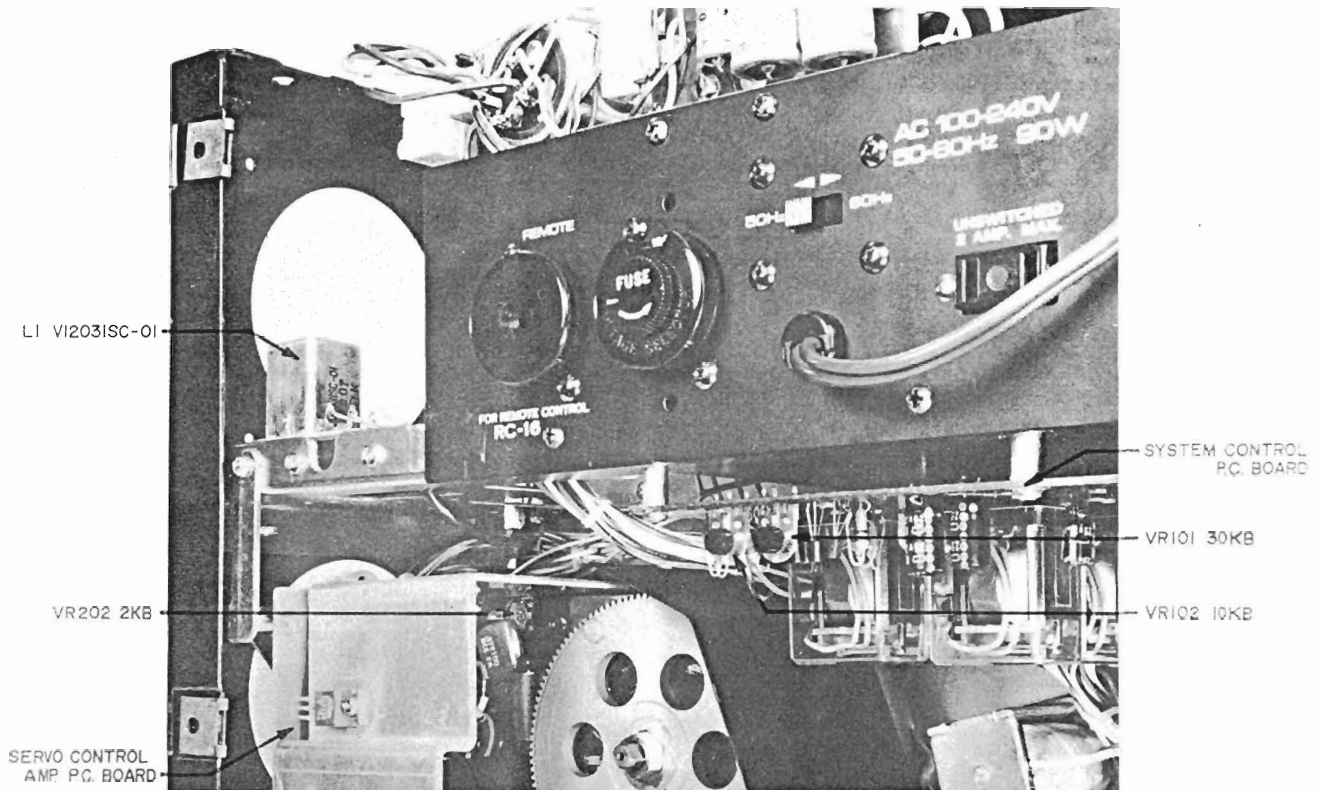

Fig. 9
- 3) Adjust the core of coil L1 (VI023SC-01) shown in Fig. 9 so that the Frequency Counter indication is 500 Hz $\pm 1\%$.
- 4) After the 3-3/4 ips (9.5 cm/sec.) tape speed adjustment has been completed, depress the 7-1/2 ips (19 cm/sec.) Tape Speed Selector and adjust Servo-Control P.C. Board semi-fixed resistor VR202 (2 kB) shown in Fig. 9 so that the frequency counter indication is 1,000 Hz $+1/-0.5\%$.
Adjust System Control P.C. Board semi-fixed resistor VR101 (30 kB) shown in Fig. 9 so that when the machine is switched from FWD to REV mode or from REV to FWD mode, the pinch wheel separates from the capstan in about 3 seconds.
- 2) Adjust System Control P.C. Board semi-fixed resistor VR102 (10 kB) shown in Fig. 9 so that when the machine is switched from F.FWD or RWD to FWD or REV mode, the time constant is about 1.5 seconds.